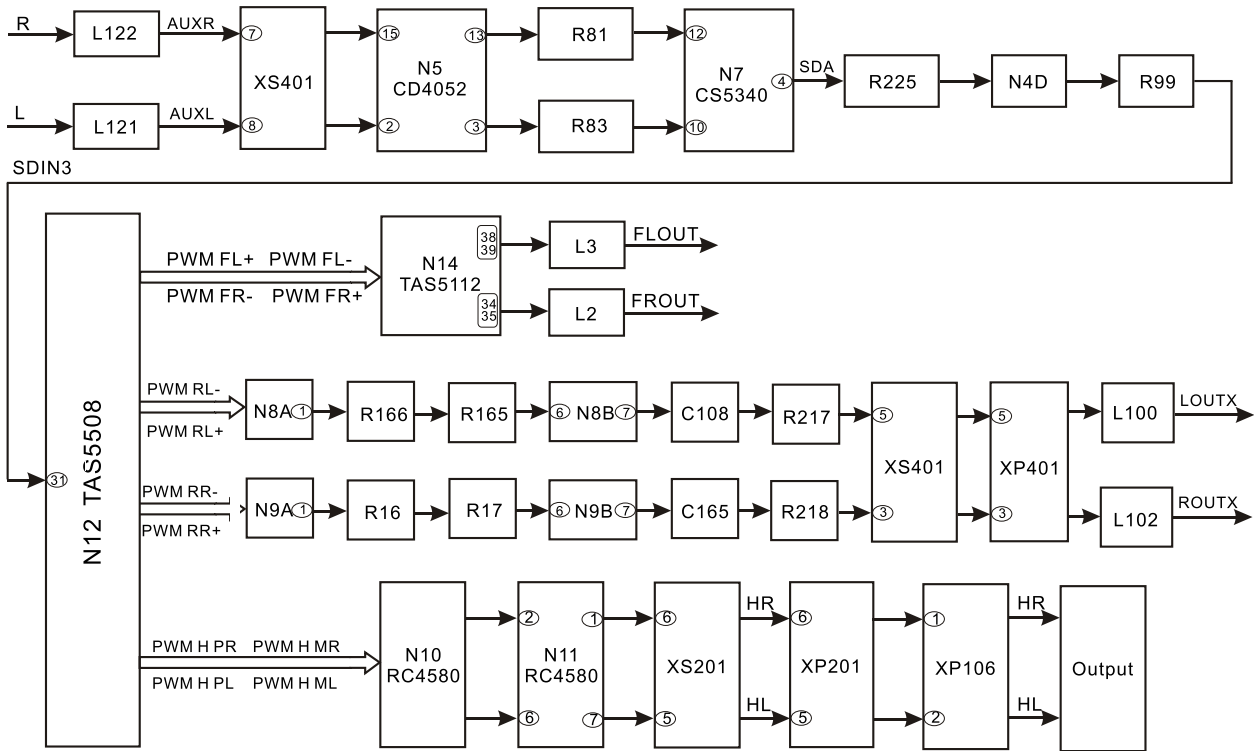

Figure 3.3.3.2 External input circuit block diagram
2. Headphone output circuit block diagram is shown as the following figure 3.3.3.3: